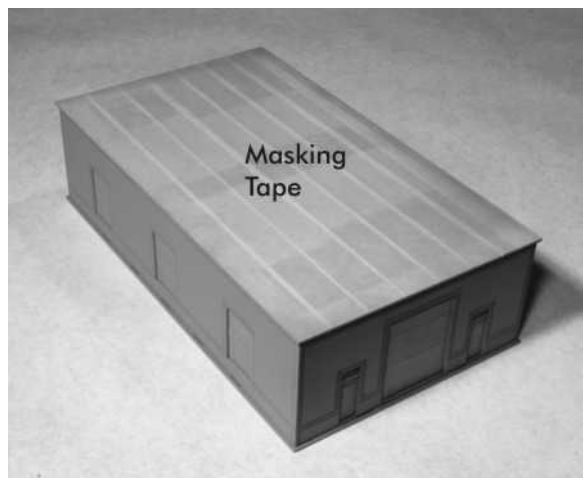

Figure 5
Cover the top of part (B) with tape. Paint the unit khaki. Once dry, remove all the masking tape. See Figure 5.